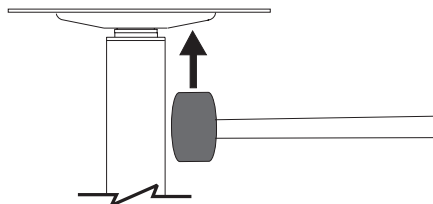

Figure 2
2. With the seat removed, use a rubber mallet to tap the underside of the seat plate assembly (tap toward center of plate) to disengage it from the column. *Figure 2.*